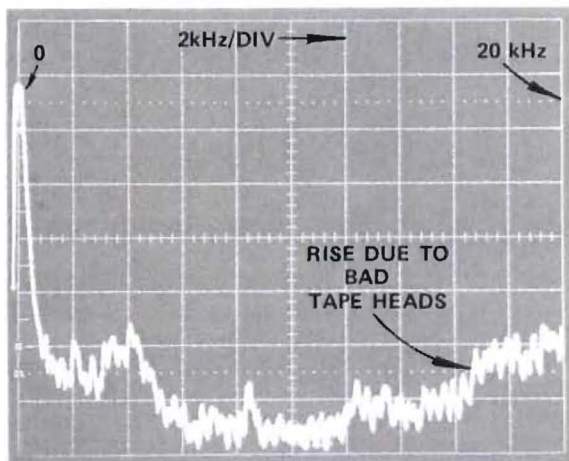

Figure 38 Spectral-Noise Density Display
6. If the noise floor does not appear flat, use a narrower RESOLUTION bandwidth to determine if the noise is, in fact, uneven, or if another problem such as hum is causing an uneven display. The shape of the noise floor from 20 Hz to 20 kHz is the Spectral-Noise Density, Figure 38.